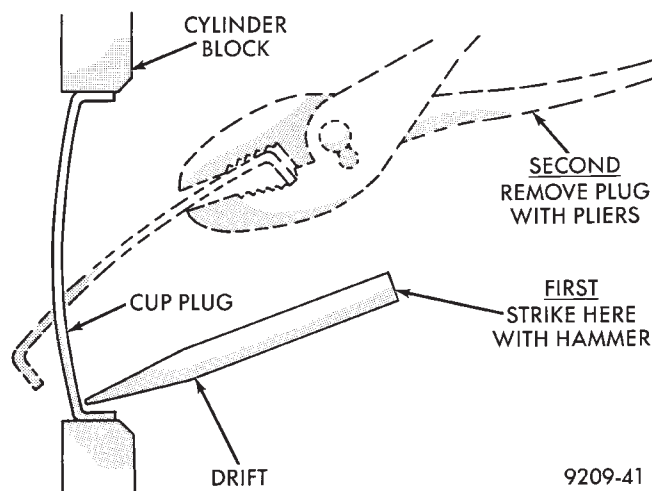

Fig. 8 Core Hole Plug Removal
(1) Using a blunt tool such as a drift or a screwdriver and a hammer, strike the bottom edge of the cup plug (Fig. 8).
(2) With the cup plug rotated, grasp firmly with pliers or other suitable tool and remove plug (Fig. 8).